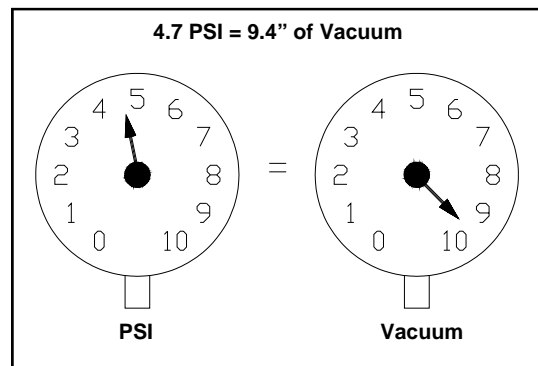

Figure 5
4.7 PSI Working Pressure = 9.4 inches of vacuum. See Figure 5.